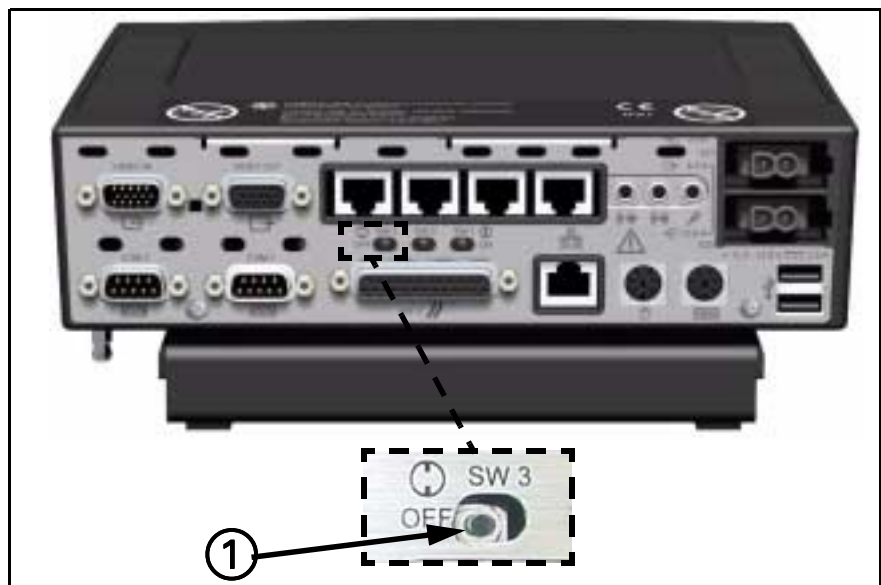

Figure 4-1 MDS (rear view)
Verify that BIOS switch (see ① in insert in Figure 4-1) on rear of MDS is set to right.
3. At DOS A:> Phlash prompt, type **C:** (① in Figure 4-1) and press <Enter>.
4. At DOS C:> prompt, type **md^plash** (② in Figure 4-1) and press <Enter>.
5. At DOS C:> prompt, type **x:** (③ in Figure 4-1) and press <Enter>.
6. At DOS X:> prompt, type **copy^plash^c:\plash** (④ in Figure 4-1) and press <Enter>.